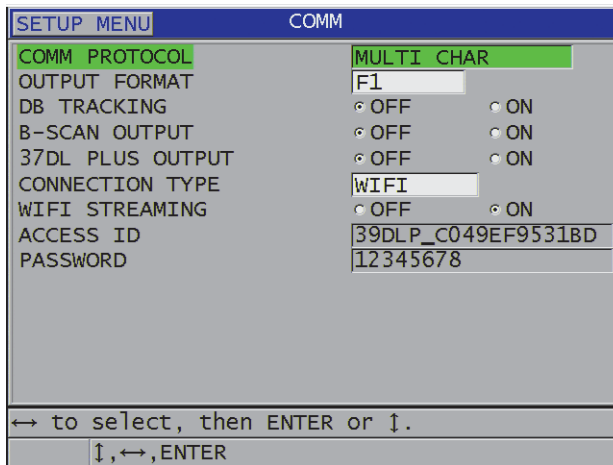

Figure 14-5 Configuring WiFi
4. In the **COMM** screen, set **CONNECTION TYPE** to **WIFI** (see Figure 14-5 on page 270).